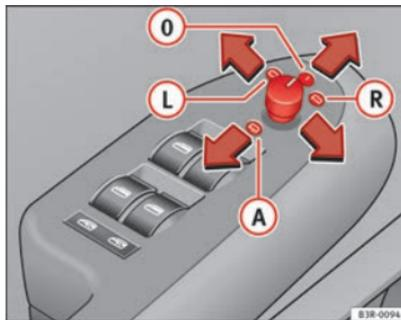

Fig. 103 Detailed view of the armrest: Adjuster knob
- Turn the adjuster knob to position ⇒ Fig. 103 **(L)** (left exterior mirror) or position **(R)** (right exterior mirror).
When reverse gear is engaged, the mirror surface tilts slightly downwards, provided the mirror control is switched to the exterior mirror on the passenger side (knob in position **R** ⇒ Fig. 103). This provides a better view of the kerb when parking.